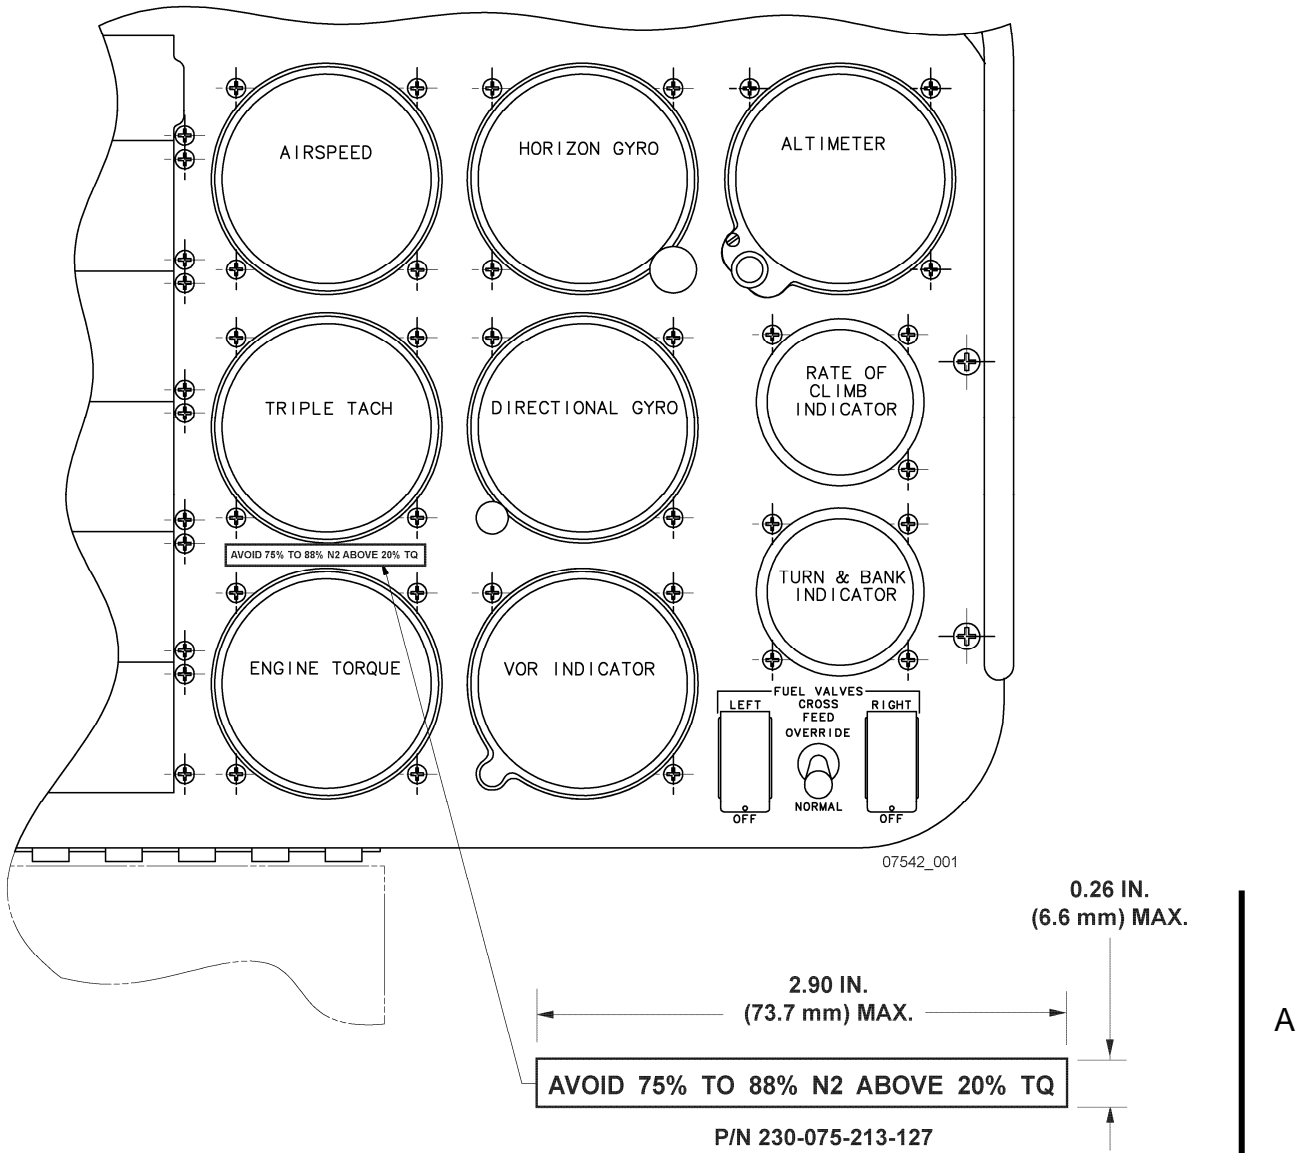

Figure 1 – Typical 206LT Instrument Panel Layout
1. The decal may be locally manufactured using lettering of white color (No. 17875) on black background color (No. 17038). Characters to be 10 point Spartan blackfont. Color per FED STD 595. The text for the decal is detailed in Figure 1 and should be in capital letters. It is permissible to use existing decal provided the "60 SEC MAX" wording is cut and removed.
1. Install decal 230-075-213-127 on the instrument panel as shown in Figure 1,